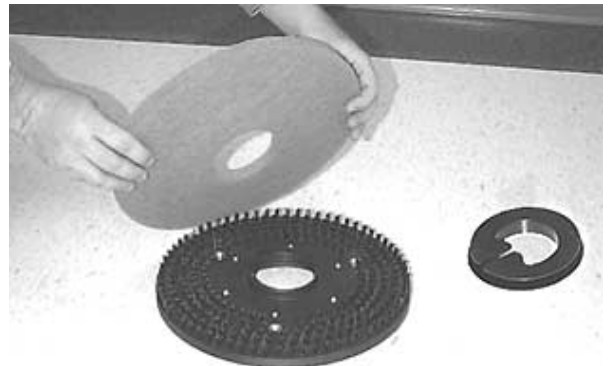

FIG. 8
- (For Pad Installation)** Attach pads to pad drivers before connecting drivers to motor hub. Secure pads with plastic centerlock ring (*Figure 8*).